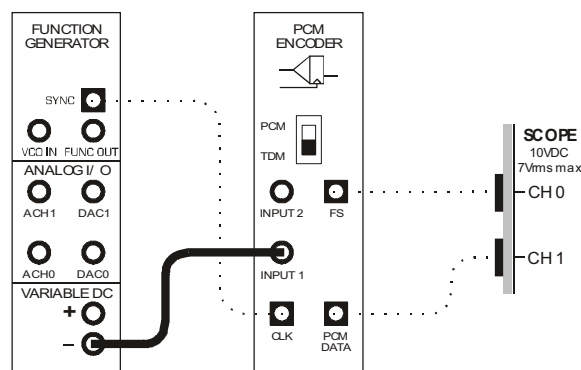

Figure 7
25. Modify the set-up as shown in Figure 7 below.